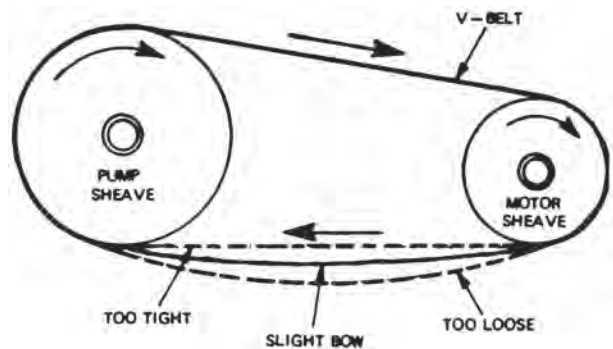

Figure 5-1 – V-Belt Tensioning
2. Start the drive and continue to tension the V-belt(s) until only a slight bow on the slack side of the drive appears while operating under load conditions as shown in **Figure 5-1 on page 9**.
4. Check the V-belt tension as shown in *Figure 5-1 on page 9*.